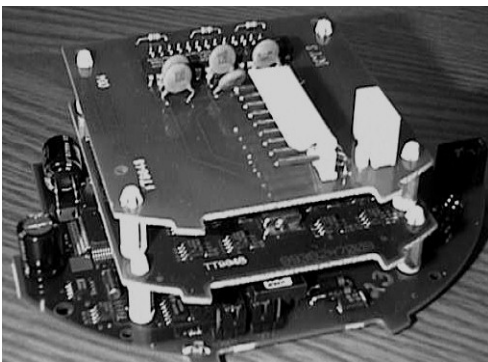

Figure 1: Option board stack
Any combination of the four (4) option boards may be installed in the kV™ Meter at one time. These include the I/O-2 Input/Output option board, the LP-2 Load Profile option board, the kV RSX Option Board, and the RG-1 Revenue Guard option board. The I/O-2, LP-2, and kV RSX Option Board can be combined in an option board “stack” if necessary. See Figure 1 for details.